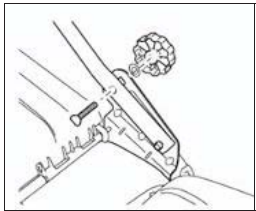
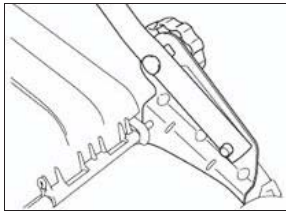

Fig.7A
Fig.7B
1. Remove the locking knobs which fixed the lower handle. (Fig.7A/Fig.7B)